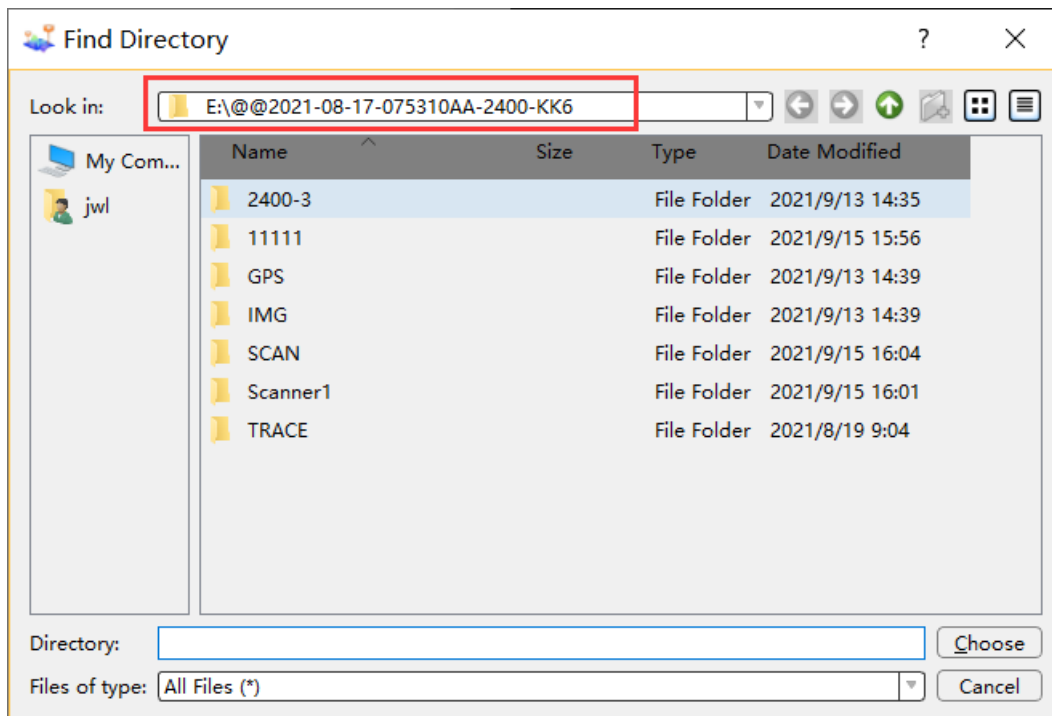

Figure 11
- The Find Directory dialog box will pop up as shown in figure 11